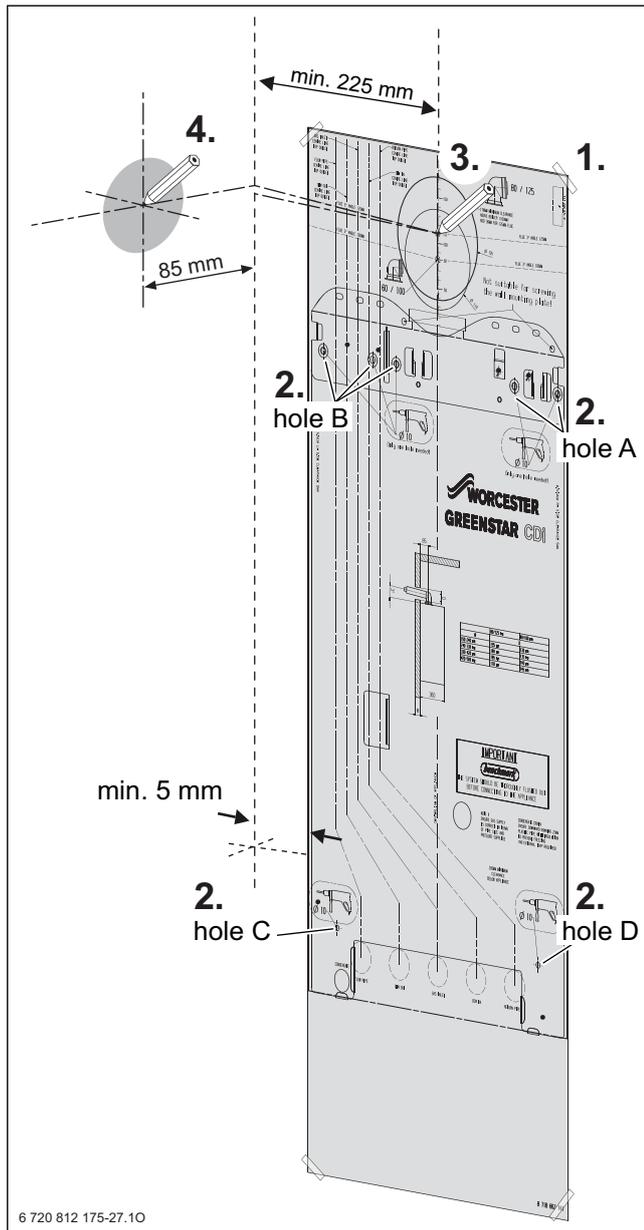

Fig. 22 Mounting template
- Fig. 22 shows the relative positions of the flue and the fixing of the wall mounting plate, the hanging bracket and pre-plumbing manifold.
- ▶ Follow the Fig. 22 to mark the centre of the flue for rear outlet (3) or for side outlet (4).